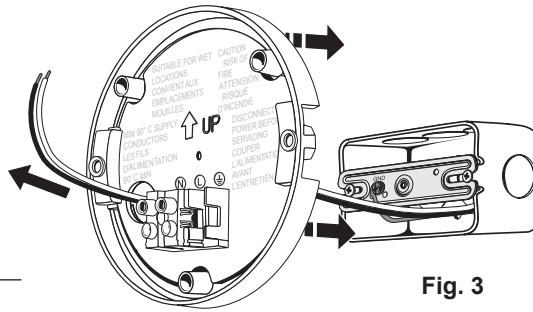
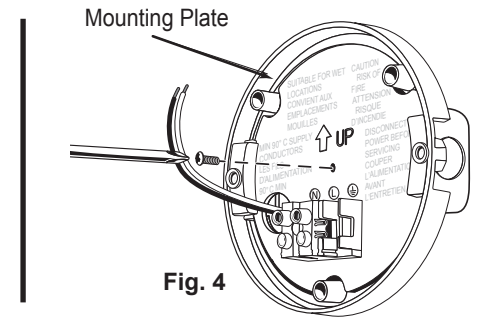

Fig. 3
Fig. 4
2. Feed the ends of the supply wires through the large hole in the mounting plate (ensure that there is enough wire to insert into the contact terminals) (Fig. 3). Line up the center hole (located below the "Arrow" and "UP" molded into the mounting plate) on the mounting bracket. Insert the remaining quick connect screw into the center hole and tighten until the mounting plate is securely attached to the junction box (Fig. 4).